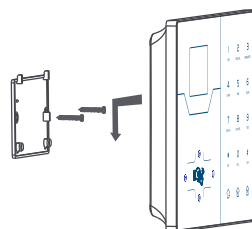

Figure 2-2
C. Put the main panel on the bracket right, and push the main panel downward, as show in Figure 2-2.